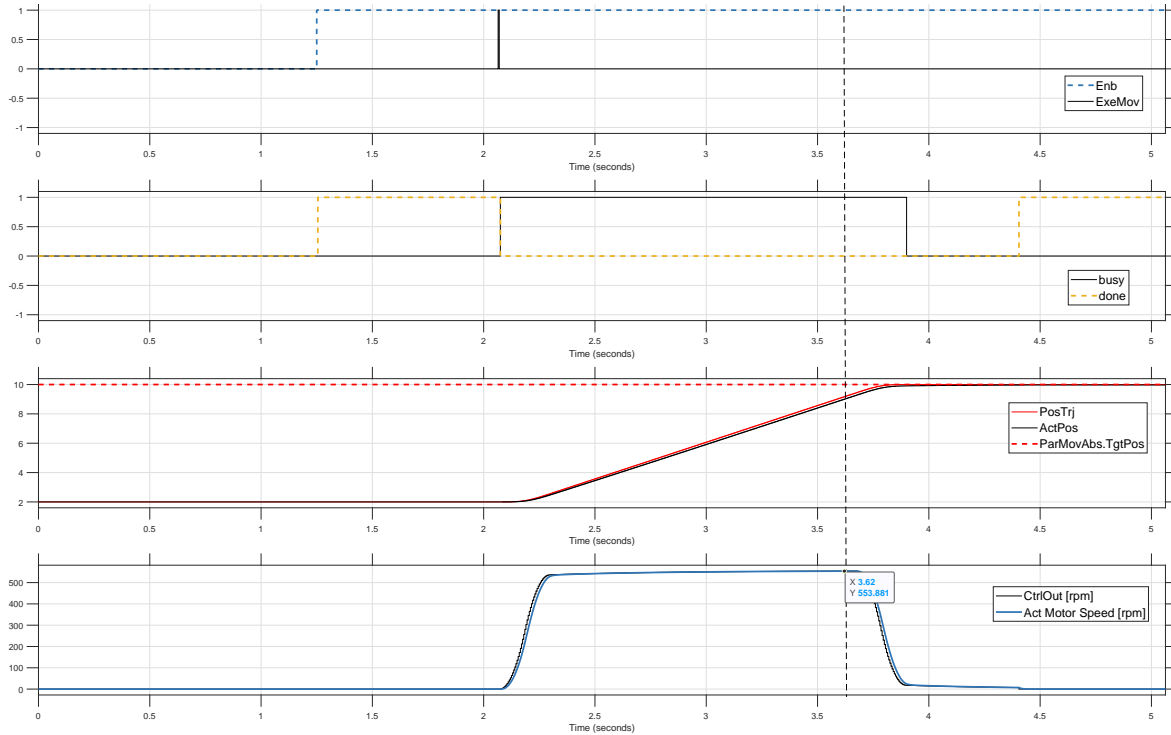

Figure 18: Adjusted Feedforward parameters ($K_p = 200$, $K_i = 0.0$, $GainFwdSpdCtrl = 104.1$, $GainBwdSpdCtrl = 0.0$, Window = 0.2mm, TuneTime = 0.3s)
the example shown in figure 18. The $MaxSpdSetPnt$ was set to $5 \frac{mm}{s}$. The motor speed is 520.52rpm. The value for $GainFwdSpdCtrl$ is then calculated by
- Analyze the Motion: The movement should resemble the ideal trajectory shown in reference images (e.g., similar to figure 18).